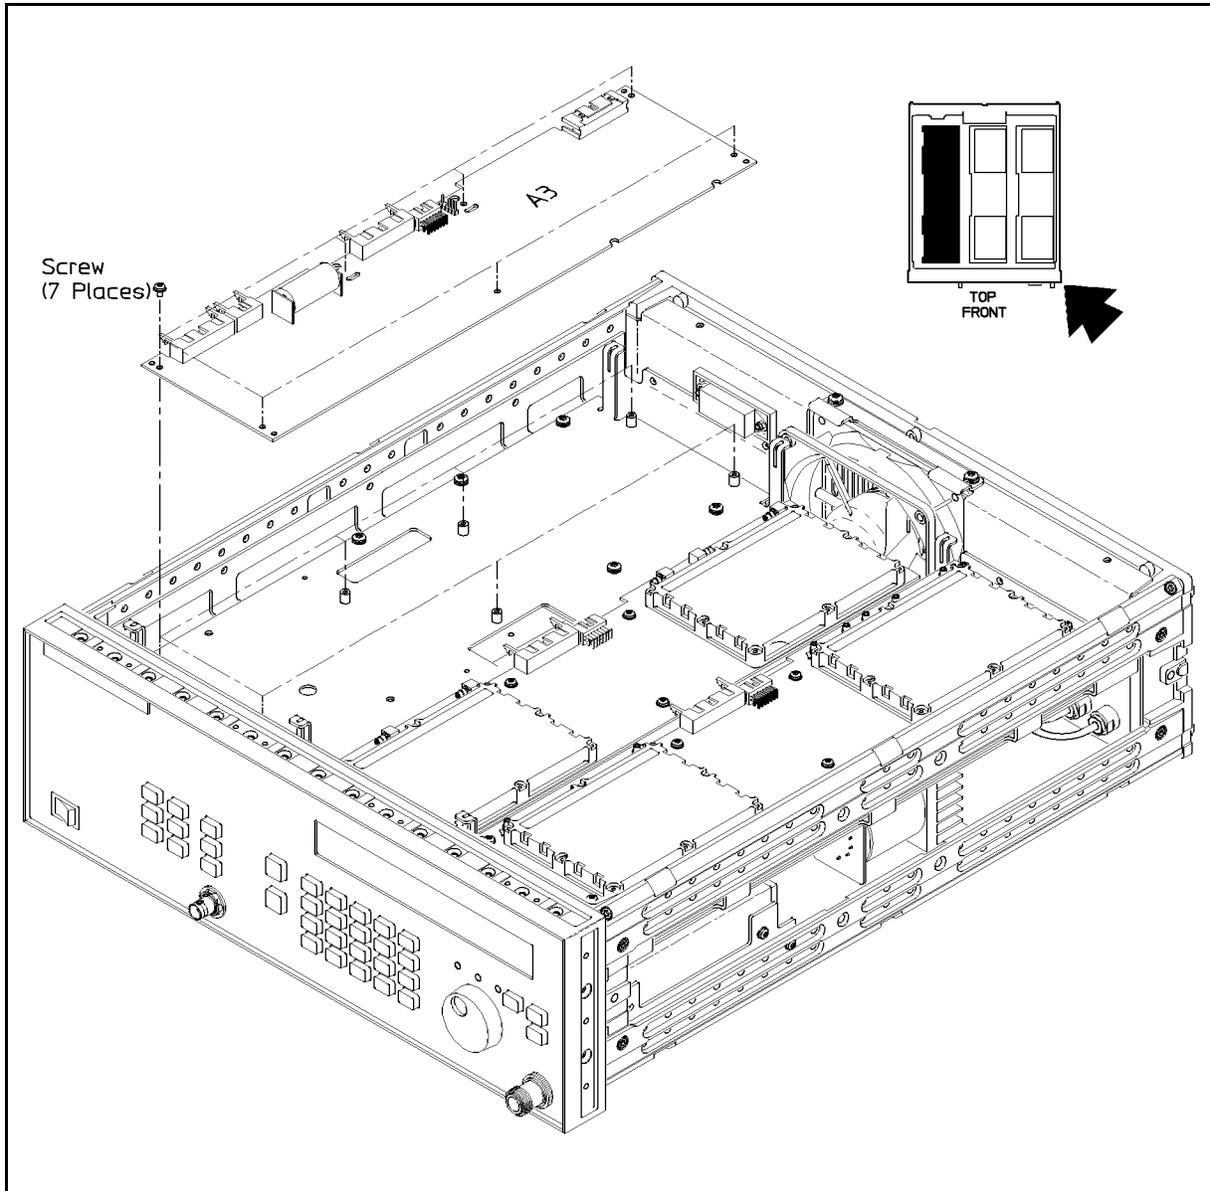

Figure 5-15. Microprocessor Board Assembly Removal
1. Using a size 10 TORX® screwdriver, remove the seven screws from the microprocessor board assembly as shown in Figure 5-15.